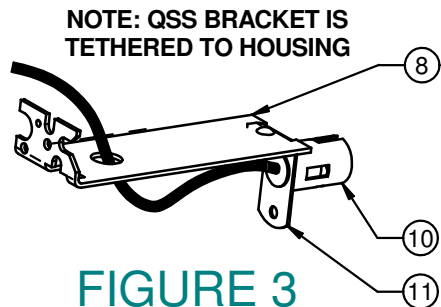

FIGURE 3
D. TO INSTALL 23" DIA. BL-OU60 REFLECTOR TO BALLAST HOUSING WITH QSS BRACKET ATTACHED FIGURES 3 & 4
3. Raise reflector up towards the housing and allow the loose QSS bracket assembly (8) to pass through the central hole in the reflector.
4. Pass the QSS bracket assembly through the large hole in the side of the heat reflector (9).